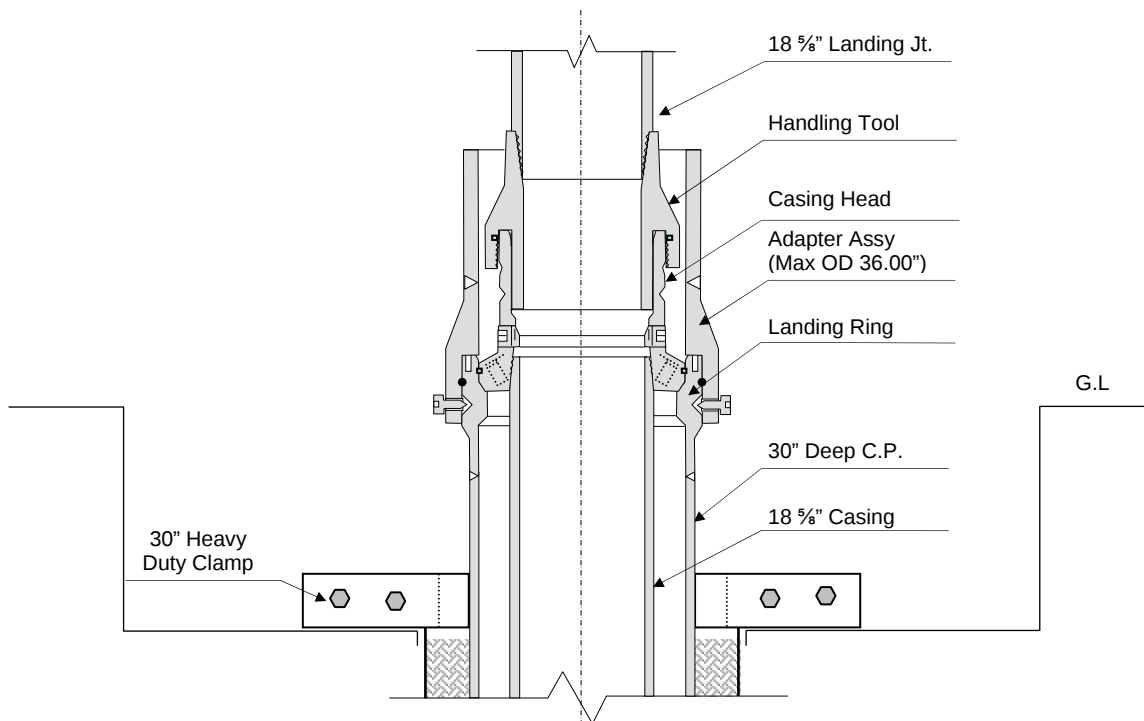

Figure 2-18: 18 5/8" Casing Landed on 30" landing ring
- Pick up the casing string, Orientate CH so that the outlets are facing to the direction desired. Lower CH slowly and carefully through the rotary table. Land the CH on the load shoulder of the 30" landing ring. Figure 2-18 and Figure 2-19.